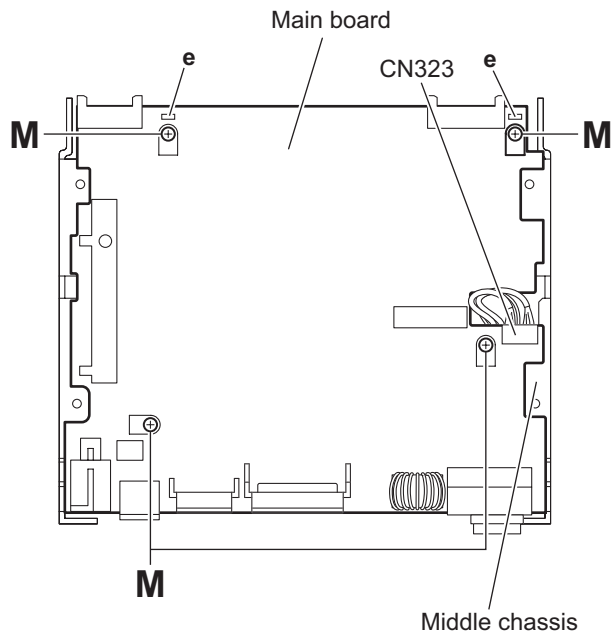

Fig.9
3.1.9 Removing the main board (See Fig.9)